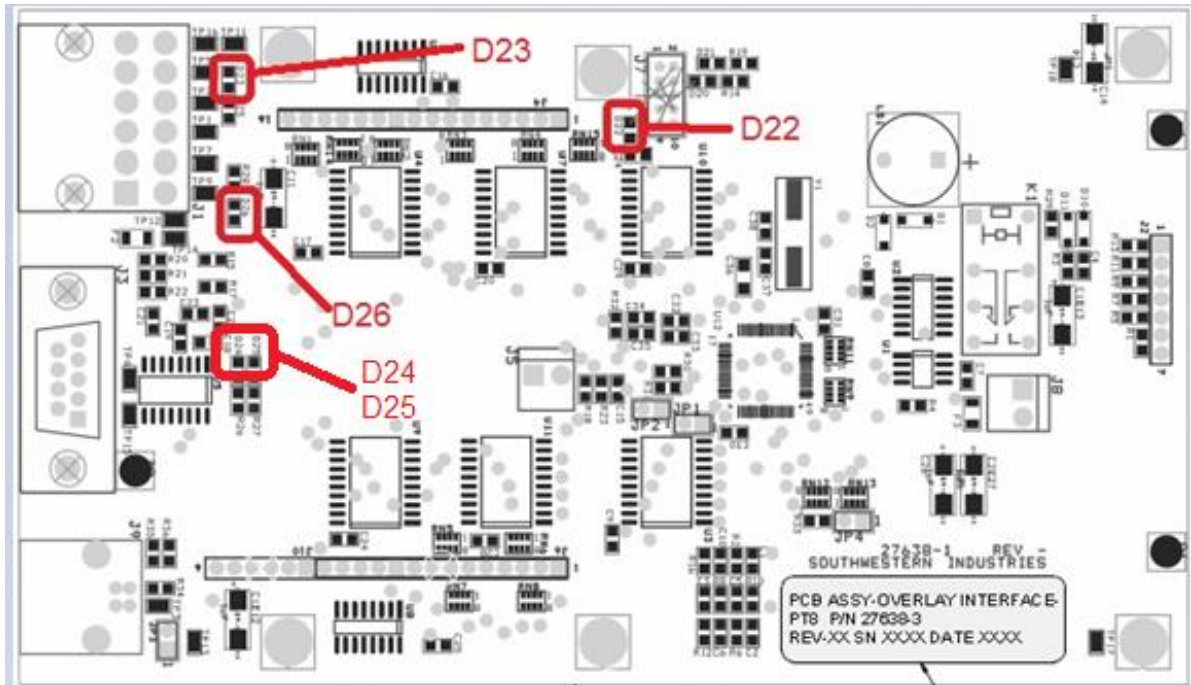

Figure 5.4e – Overlay Interface Board
8. LED Lights – *The overlay interface board has a few LED lights that can be used for troubleshooting. See figure 5.4e for location of LED's on board.*